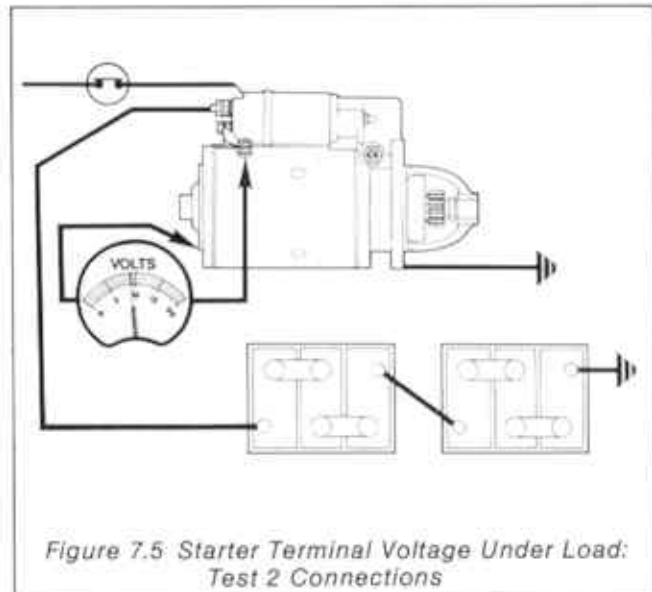

Figure 7.5 Starter Terminal Voltage Under Load: Test 2 Connections
7.12 Connect the voltmeter between the starter input terminal and earth (commutator end bracket) as shown in Figure 7.5 and operate the starting switch. The voltage reading should not be more than 0.5V below the voltage measured across the battery terminals (Test 1). If the voltage reading is within this limit the starter circuit is satisfactory. If the voltage reading is low (battery voltage correct) it indicates a high resistance in the cable or at the starter contacts. This could be bad or dirty connections.